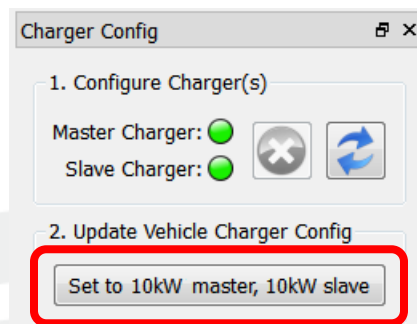

Figure 19
7. Verify that the information in the “Charger Config” panel is correct, then click the **Set to 10 kW master, 10 kW slave** button (Figure 19).